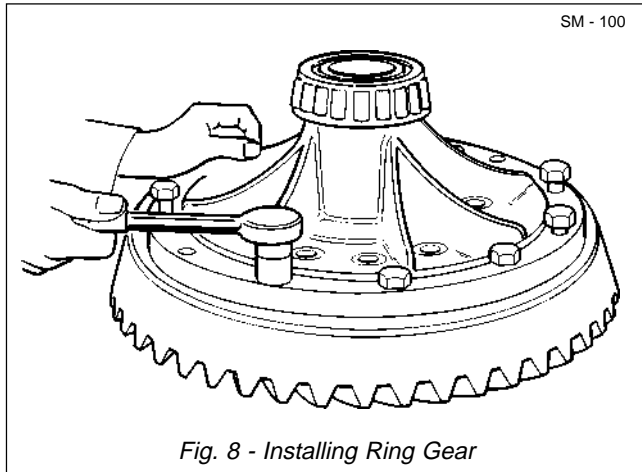

Fig. 8 - Installing Ring Gear
1. Align identification marks that were made during disassembly on ring gear (29) and flanged case (28).
2. Install bolts (31) and nuts (30) and tighten to a torque of 700 Nm (515 lbf ft). Refer to Fig. 8.